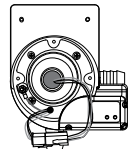

Figure 2
2. Once the UV bulb has cooled off remove the CLEARARRAY System enclosure cover (2) by removing the four screws (1). This will expose the UV bulb and connections, Figure 2.